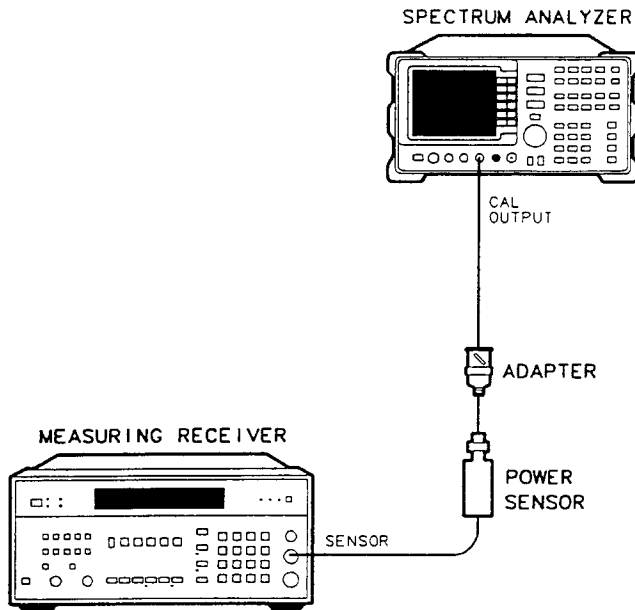

Figure 3-3. Calibrator Accuracy Test Setup
2. Connect the power sensor through an adapter directly to the CAL OUTPUT connector, as illustrated in Figure 3-3. Read the power meter display.